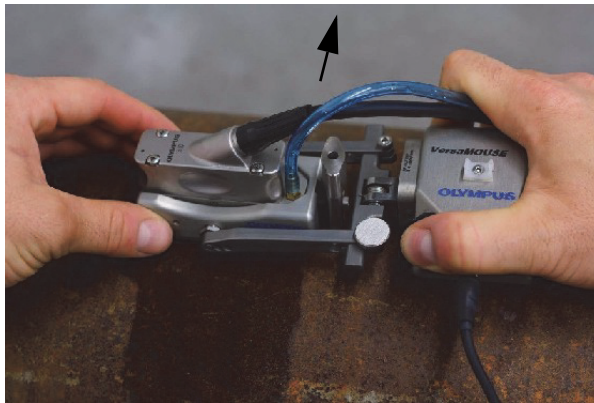

Figure 2-2 VersaMOUSE inspection sweep
8. Hold the VersaMOUSE securely with one hand, and the wedge with the other hand for maximum stability, and then move the unit along the inspection path in a smooth, continuous motion (see Figure 2-2 on page 18).